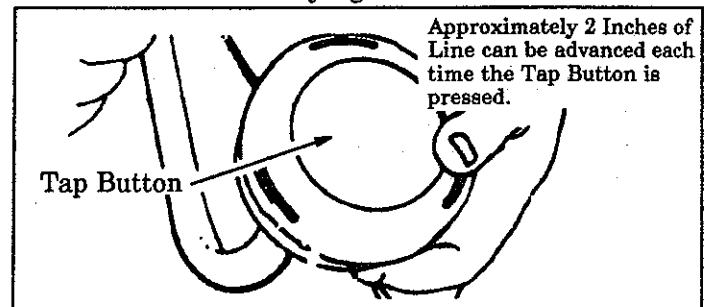

Figure 6
- Press the Tap Button and pull a minimum of 4 inches of Line from the Trimmer Head. Figure 6 . Approximately 2 inches of line can be advanced each time the Tap Button is pressed.